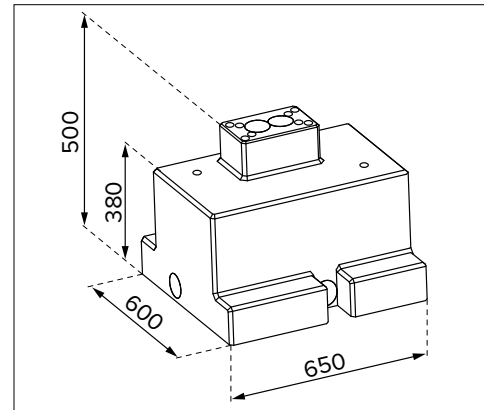

Fig. 2: Dimensions of prefabricated foundation [mm]
- "Fig. 2: Dimensions of prefabricated foundation [mm]"